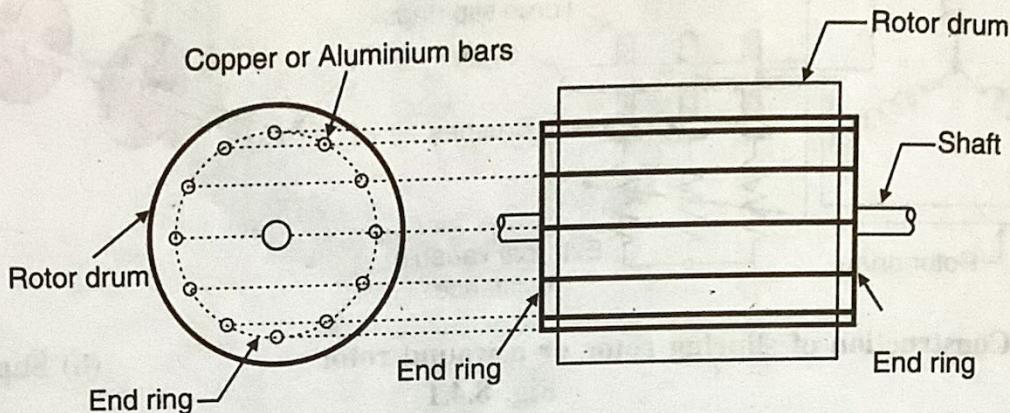

Fig. 8.4.2
- Such a rotor alongwith its end view is shown in Fig. 8.4.2.
- Fig. 8.4.2 shows that the rotor drum is provided with a number of circular holes, parallel to the shaft.